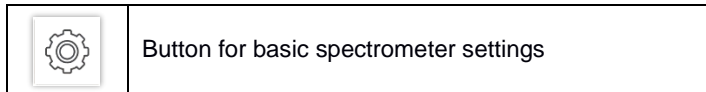

*Figure 26 Sending the dump*
- 4.7.7. "Dump" - recording and sending service information to the manufacturer for remote diagnostics and device operation parameters settings. When sending the dump, you can select the data transfer method: via Bluetooth or Wi-Fi network (Figure 26). If you select Bluetooth data transfer, the device will offer a list of available devices, and then send a file to the selected device with zip extension, which should be sent to the technical support service to support@nppsd.ru. When sending, specify the reason for sending data from the device and contacts for communication. If you choose to send the dump via Wi-Fi, the device will offer a list of available networks. Select the desired network, enter the password of this network. The spectrometer will connect to the server and upload the data for support. Since there is no record of your contact information when sending, please contact the technical support.